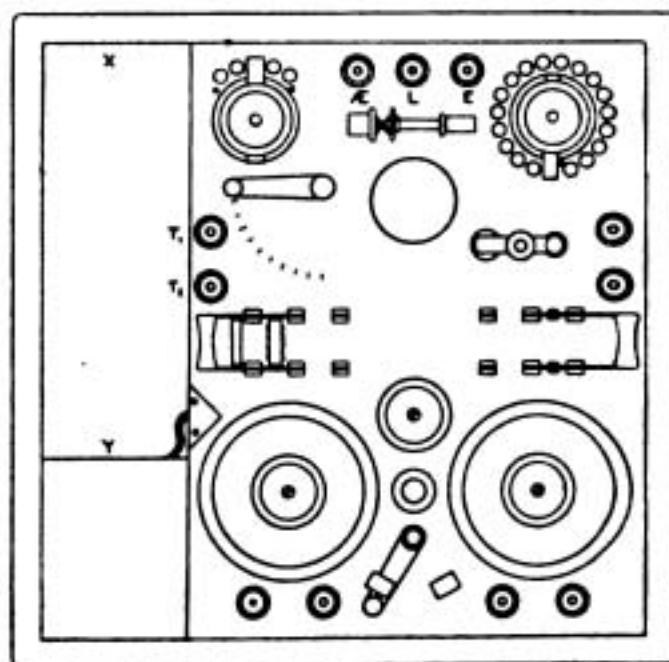
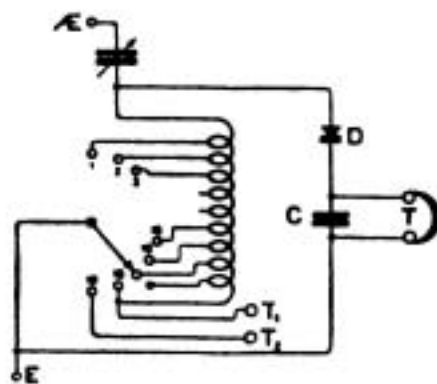

Fig. 2.
Fig. 3.
Perhaps the most convenient place for these extra terminals is on the left-hand side, alongside the coupling handle, Fig. 2.
are marked  $T_1$  and  $T_2$  in Fig. 2, and the connections become as in Fig. 3.
Unfortunately it is not at all easy to get at the nuts on the back of contacts 18 and 19 of the A.T.I. switch, so that if preferred, the following alternative may be adopted:—Midway between the aerial ( $\mathcal{A}$ ) and the earth (E) terminals insert another one as at L in Fig. 2. On the back of the E terminal will be found two wires, one going to the left (when looking at the underside of the panel) to the arm of the A.T.I. switch, and the other going downwards to the lower
stand-by contact of the "stand-by"—"tune" change-over switch. Release the former of these two wires from the E terminal and lengthen it so as to reach the new terminal L (Fig. 2), to which it should be connected. The second wire from the change-over switch should be left on the E terminal and screwed up tight. When wiring up the instrument connect the aerial and earth leads to the  $\mathcal{A}$ E and E terminals respectively, as usual, and connect the external loading coil between the new L terminal and E.